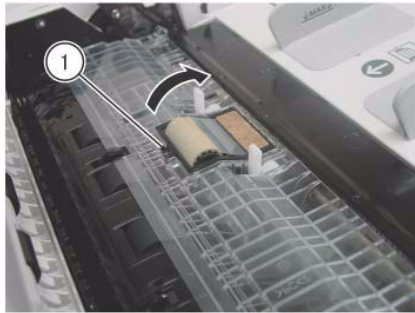

Figure 1 Open the Retard Roll cover
4. Open the Retard Roll Cover. (Figure 1)